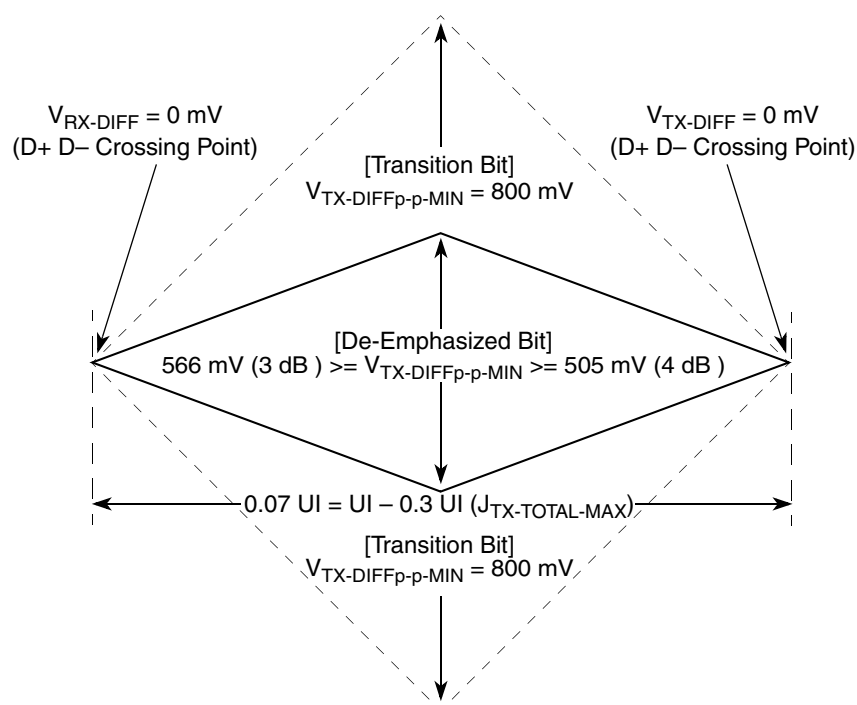
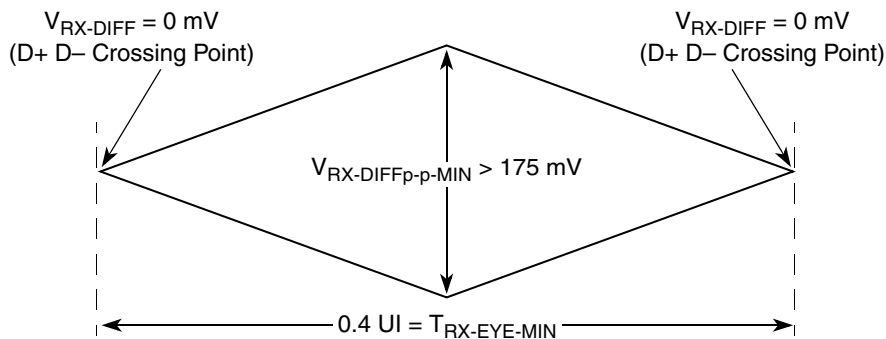
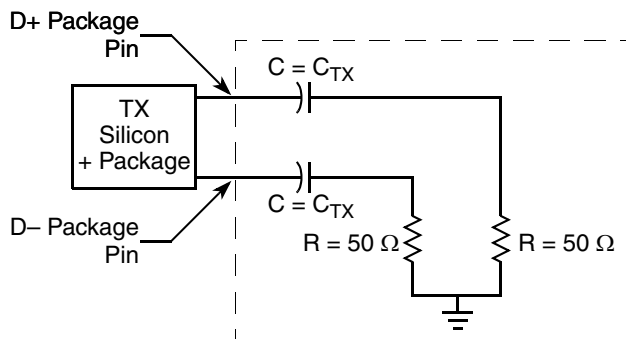

Figure 55. Minimum Transmitter Timing and Voltage Output Compliance Specifications
Figure 56. Minimum Receiver Eye Timing and Voltage Compliance Specification
Figure 57. Compliance Test/Measurement Load
2. Specified at the measurement point into a timing and voltage compliance test load as shown in Figure 57 and measured over any 250 consecutive TX UIs. (Also refer to the transmitter compliance eye diagram shown in Figure 55.)
4. The Transmitter input impedance shall result in a differential return loss greater than or equal to 12 dB and a common mode return loss greater than or equal to 6 dB over a frequency range of 50 MHz to 1.25 GHz. This input impedance requirement applies to all valid input levels. The reference impedance for return loss measurements is 50 ohms to ground for both the D+ and D- line (that is, as measured by a Vector Network Analyzer with 50 ohm probes—see Figure 57). Note that the series capacitors C_{TX} is optional for the return loss measurement.
5. Measured between 20-80% at transmitter package pins into a test load as shown in Figure 57 for both V_{TX-D+} and V_{TX-D-} .
The TX eye diagram in Figure 55 is specified using the passive compliance/test measurement load (see Figure 57) in place of any real PCI Express interconnect + RX component.
- Specified at the measurement point and measured over any 250 consecutive UIs. The test load in Figure 57 should be used as the RX device when taking measurements (also refer to the Receiver compliance eye diagram shown in Figure 56). If the clocks to the RX and TX are not derived from the same reference clock, the TX UI recovered from 3500 consecutive UI must be used as a reference for the eye diagram.
- The Receiver input impedance shall result in a differential return loss greater than or equal to 15 dB with the D+ line biased to 300 mV and the D- line biased to -300 mV and a common mode return loss greater than or equal to 6 dB (no bias required) over a frequency range of 50 MHz to 1.25 GHz. This input impedance requirement applies to all valid input levels. The reference impedance for return loss measurements for is 50 ohms to ground for both the D+ and D- line (that is, as measured by a Vector Network Analyzer with 50 ohm probes - see Figure 57). Note: that the series capacitors CTX is optional for the return loss measurement.
The RX eye diagram in Figure 56 is specified using the passive compliance/test measurement load (see Figure 57) in place of any real PCI Express RX component.
Note: In general, the minimum Receiver eye diagram measured with the compliance/test measurement load (see Figure 57) is larger than the minimum Receiver eye diagram measured over a range of systems at the input Receiver of any real PCI Express component. The degraded eye diagram at the input Receiver is due to traces internal to the package as well as silicon parasitic characteristics which cause the real PCI Express component to vary in impedance from the compliance/test measurement load. The input Receiver eye diagram is implementation specific and is not specified. RX component designer should provide additional margin to adequately compensate for the degraded minimum Receiver eye diagram (shown in Figure 56) expected at the input Receiver based on some adequate combination of system simulations and the Return Loss measured looking into the RX package and silicon. The RX eye diagram must be aligned in time using the jitter median to locate the center of the eye diagram.
The reference impedance for return loss measurements is 50. to ground for both the D+ and D- line (that is, as measured by a Vector Network Analyzer with 50. probes—see Figure 57). Note that the series capacitors, CTX, are optional for the return loss measurement.
The AC timing and voltage parameters must be verified at the measurement point, as specified within 0.2 inches of the package pins, into a test/measurement load shown in Figure 57.